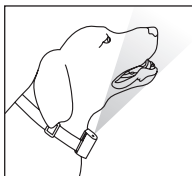

Fig. 2
2. Put the collar on your dog whilst standing so that the spray opening is perpendicular to the nose (Fig. 2) and adjust to the appropriate size.